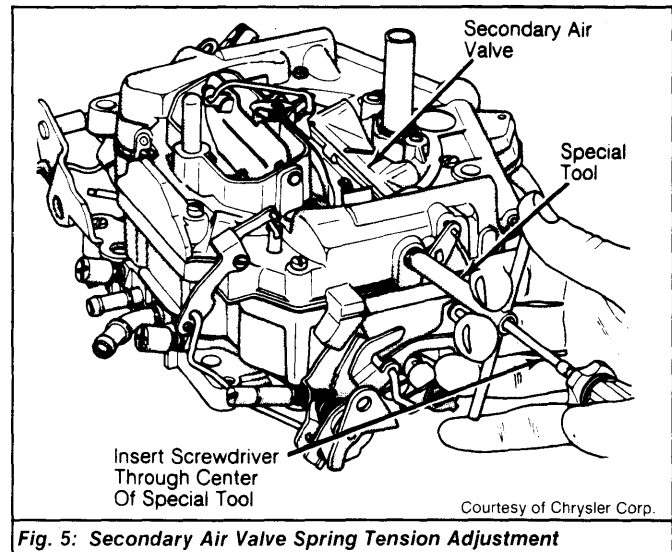

Fig. 5: Secondary Air Valve Spring Tension Adjustment
- 1) Loosen air valve lock plug. Turn air valve adjustment plug clockwise. This allows air valve to move to wide open position. See *Fig. 5.*